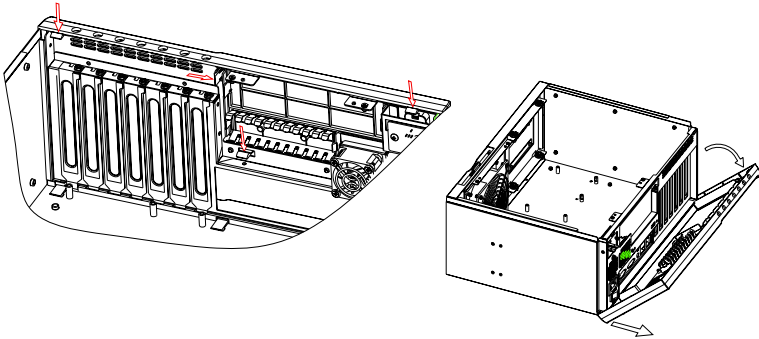

Figure 3.6: Removing the front bezel
4. Remove the front bezel by gently poking out the four hooks on the inside of the front chassis. (see *Figure 3.6*)